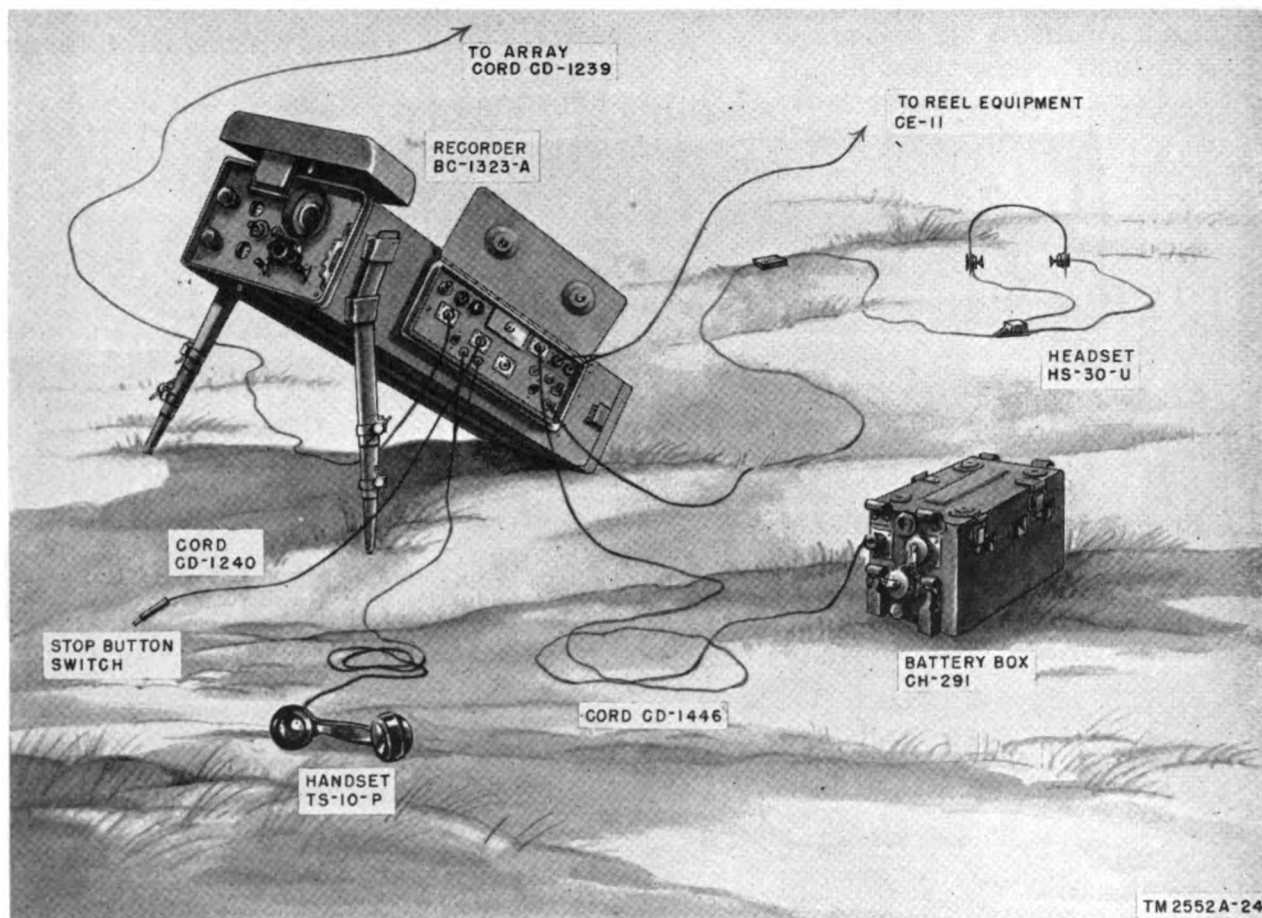

Figure 23. Cording diagram for wire-line operation.
**b. FOR WIRE LINE OPERATION (fig. 23).**
- (1) Connect Cord CD-1239 (from the microphone array) to the recorder receptacle marked MICROPHONE.
- (2) Remove Cord CD-1446 from Case CS-161 and connect one end to the recorder receptacle marked 6V and the other end to the receptacle J201 on Battery Box CH-291.
- (3) Connect Cord CD-1240 to the recorder receptacle marked STOP SWITCH.
- (4) Plug Headset HS-30-U into the jack marked PHONES.
- (5) Attach the running end of Reel Equipment CE-11 to the LINE posts on one